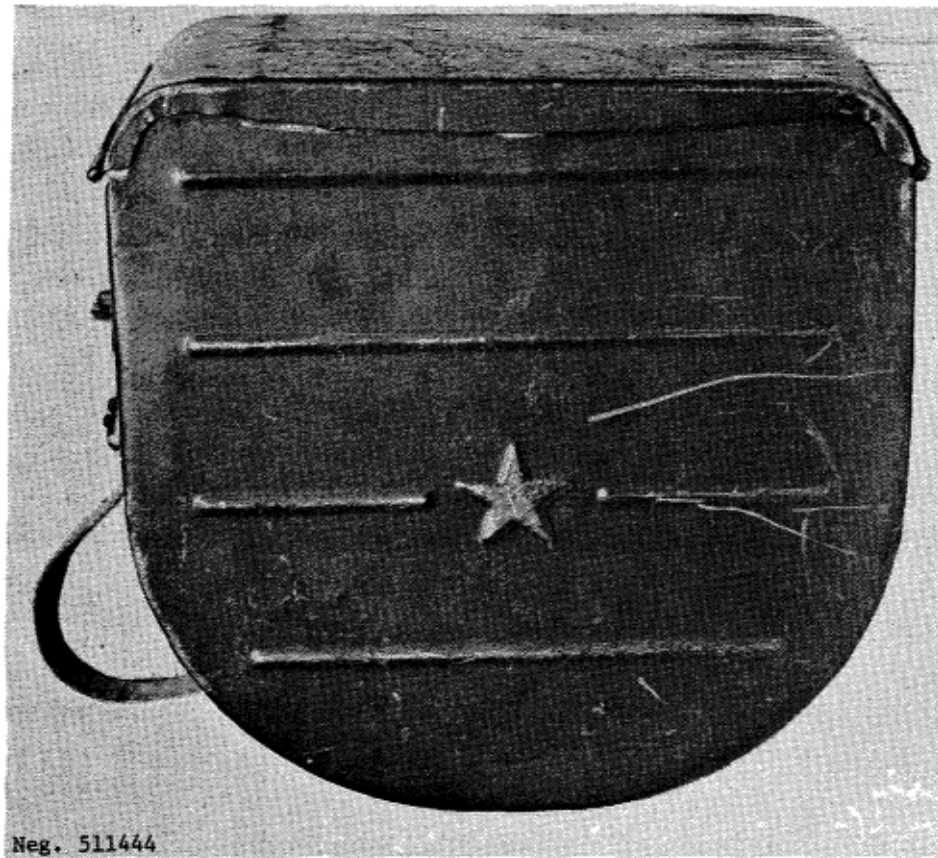

Figure 145. Degtyarev drum carrier.
- (1) Fabric sling.
- (2) Belt or drum carrying case (fig 145).
- (3) Combination tool and sectional cleaning rod.
- (4) Protective covers for the gun and the spare barrel.